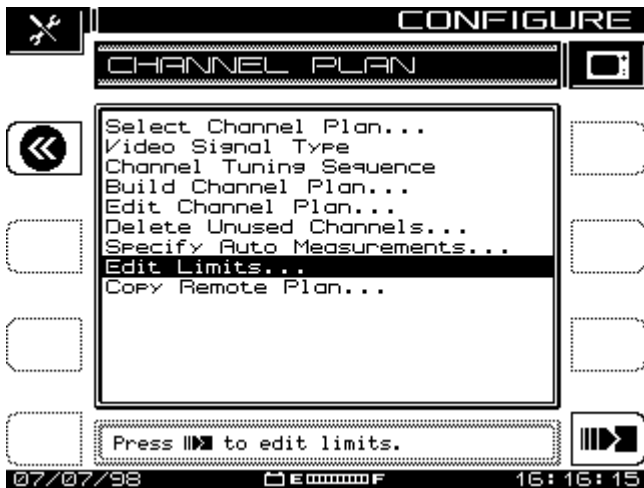

Figure 10-2: Configure, Channel Plan
B. Use the up/down arrow keys to select **Channel Plan**, and press any soft key. The screen displays Figure 10-2, **Configure, Channel Plan** top-level menu.
Fig 10-2 displays the channel plan menu. Follow the prompts of the Edit Box and directions in the text below. The “Exit” icon in the upper left moves the menu back one screen. Press the icon at the lower right, by the Edit Box, to get into each Channel Plan submenu.
5. Press **Exit** soft key to return to Figure 10-2, **Channel Plan**.
1. With Figure 10-2 displayed, select Video Signal Type and press the **Enter** soft key. The up/down arrow keys toggle between **NTSC** and **PAL** in the Edit Box.
Channel Plan, Figure 10-2. For more information about these signal types see the Glossary at the end of this manual.
With Figure 10-2, **Channel Plan** displayed, select **Channel Tuning Sequence**, and press the **Enter** soft key. The up/down arrow keys toggle between **Numeric Order** and **Frequency Order**.
- d. The display also confirms that the first and last channels are tilt enabled. Press the **OK** soft key, and Figure 10-2, **Channel Plan**, reappears.
With Figure 10-2 displayed, select **Edit Channel Plan** and press the icon prompted by the Edit Box. Fig. 10-8, **Edit Channel Plan**, appears. The eight columns of this screen display the following information about each channel in the Plan, left to right: